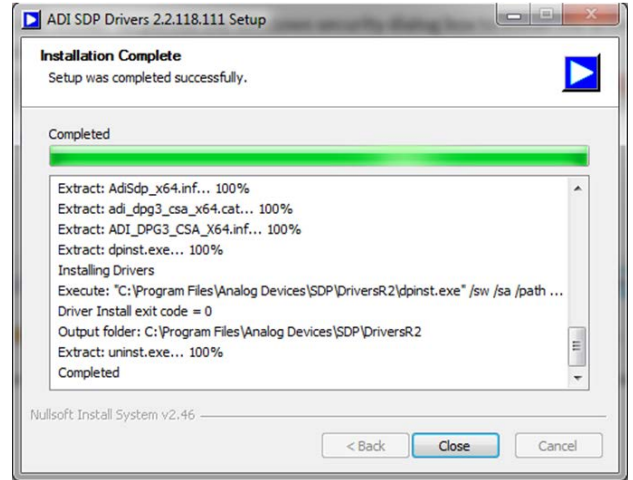

Figure 12. SDP-H1 Driver Installation Complete
- When the driver installation is complete (see Figure 12), click **Close** to exit the installer and then restart the PC before using the EVAL-AD7134FMCZ.